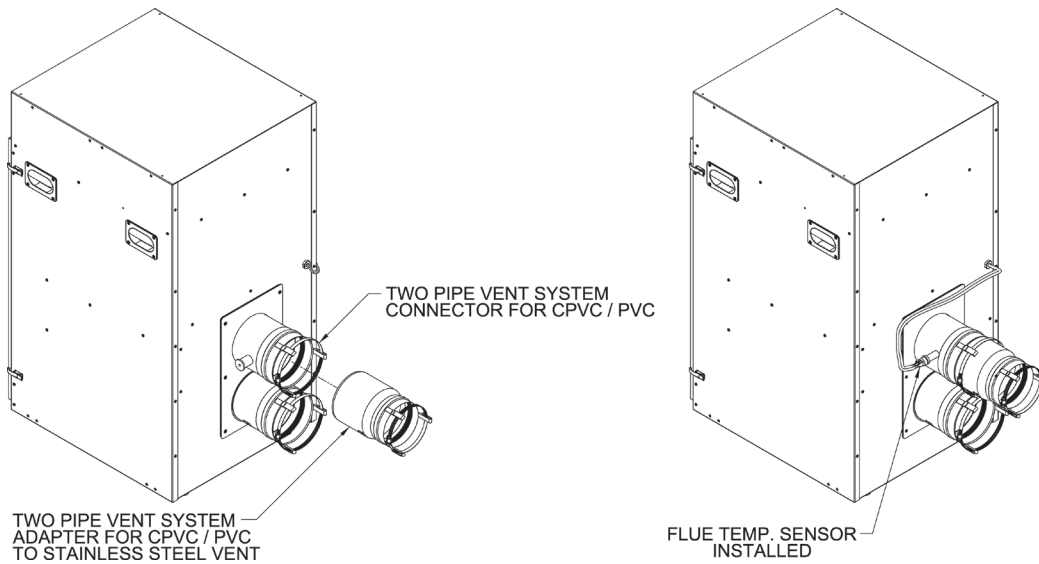

Figure 17: Field Installation of Two-Pipe Vent System Adapter for Stainless Steel
- c. Push and twist PVC to stainless steel adapter into two-pipe vent system connector vent or combustion air supply port until bottomed out. See Figure 17.
3. Field Installation of PVC to Stainless Steel Adapter into 90° Vent Elbow – Wall Mounted Boiler (W) Builds
- a. Models ALP080B (W) through ALP210B(W): Carefully insert extended PVC to stainless steel adapter (105290-01) from top through air collar plate assembly and plate gasket vent opening into boiler air box.